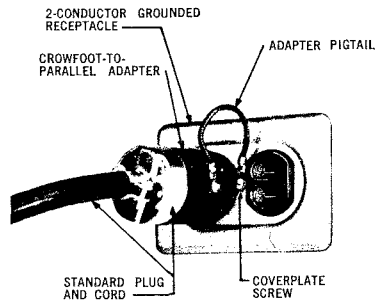

Fig. 10 – Grounded 2-Conductor Receptacle
nonmetallic sheath cable with a grounding conductor, the outlet boxes may be grounded. Under these conditions and only after it has been found that the boxes are grounded, the grounding pigtail terminal on the adapter or plug may be fastened under the coverplate screw of the receptacle. (See Fig. 10).
- 5.04 In grounding to a 2-Conductor receptacle (Fig. 10), connect pigtail to coverplate screw before inserting adapter into the receptacle.